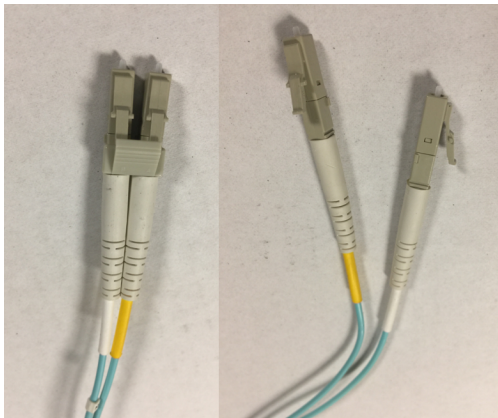
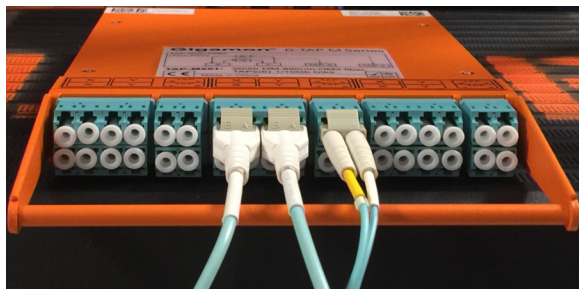
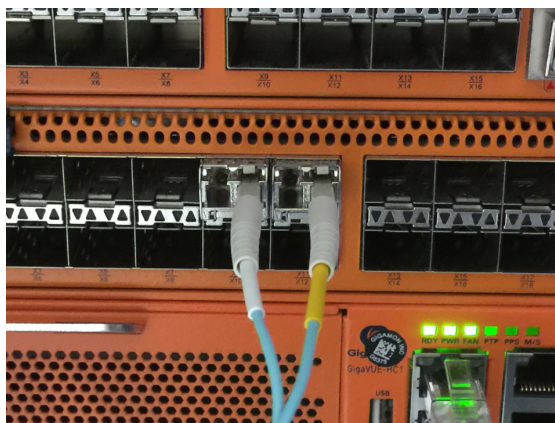

Figure 10 *LC Connectors*
Figure 11 *LC Connectors connected to TAP*
Figure 12 *LC Connectors connected to GigaVUE-OS Node*
- a. When you connect the other ends of the single fiber cable to the GigaVUE-OS node, make sure you only connect to the receiving half (Rx) of the network port. As specified earlier, transceivers have arrows indicating traffic direction. Only connect to the side of the transceiver with the arrow pointing in, to receive the traffic. Leave the transmitting half (Tx) of the port unconnected. Refer to Figure 10 LC Connectors, Figure 11 LC Connectors connected to TAP, and Figure 12 LC Connectors connected to GigaVUE-OS Node.